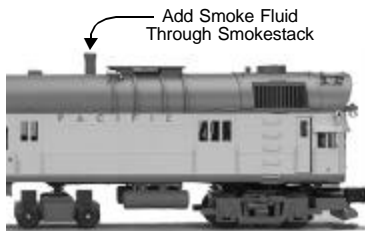

Figure 2. Add Smoke through the Smokestack
2. Prime the operating smoke unit with smoke fluid before operating. Add 15-20 drops of smoke fluid through the smokestack (see Fig. 2 on pg. 10), then gently blow into the stack to eliminate any air bubbles in the fluid.
When preparing to run this engine, add 15-20 drops of smoke fluid through the smokestack (see Fig. 2). We recommend M.T.H. ProtoSmoke, Seuthe, LGB, or LVTS fluids. Do not overfill the unit or the fluid may leak out and coat the interior engine components.